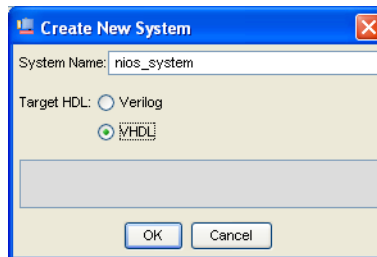
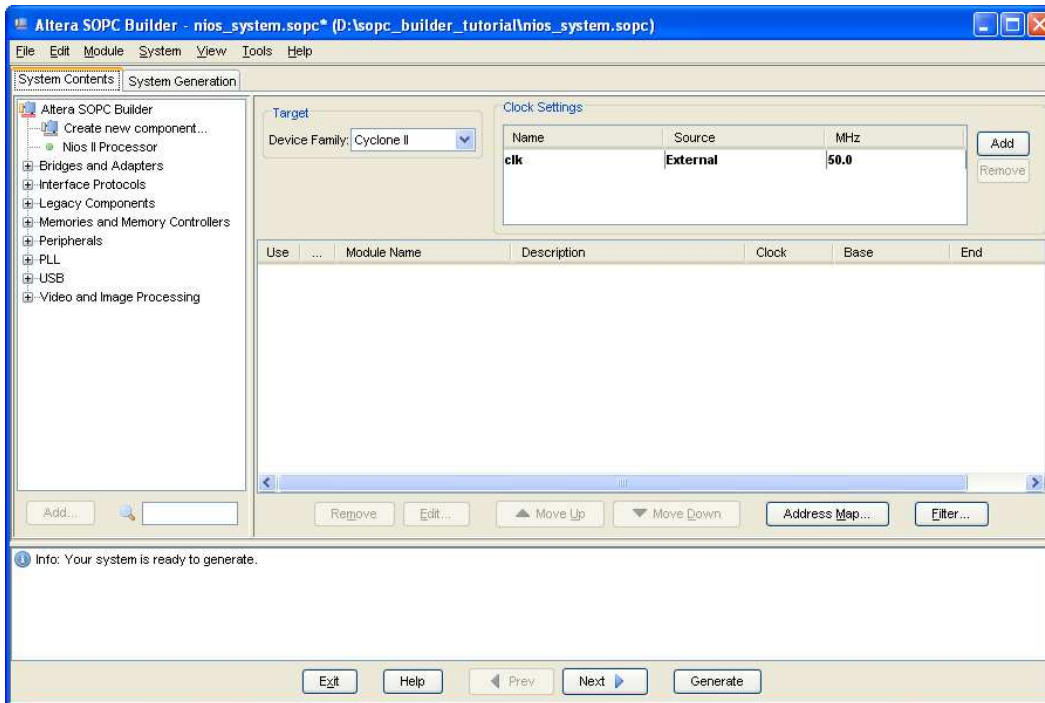
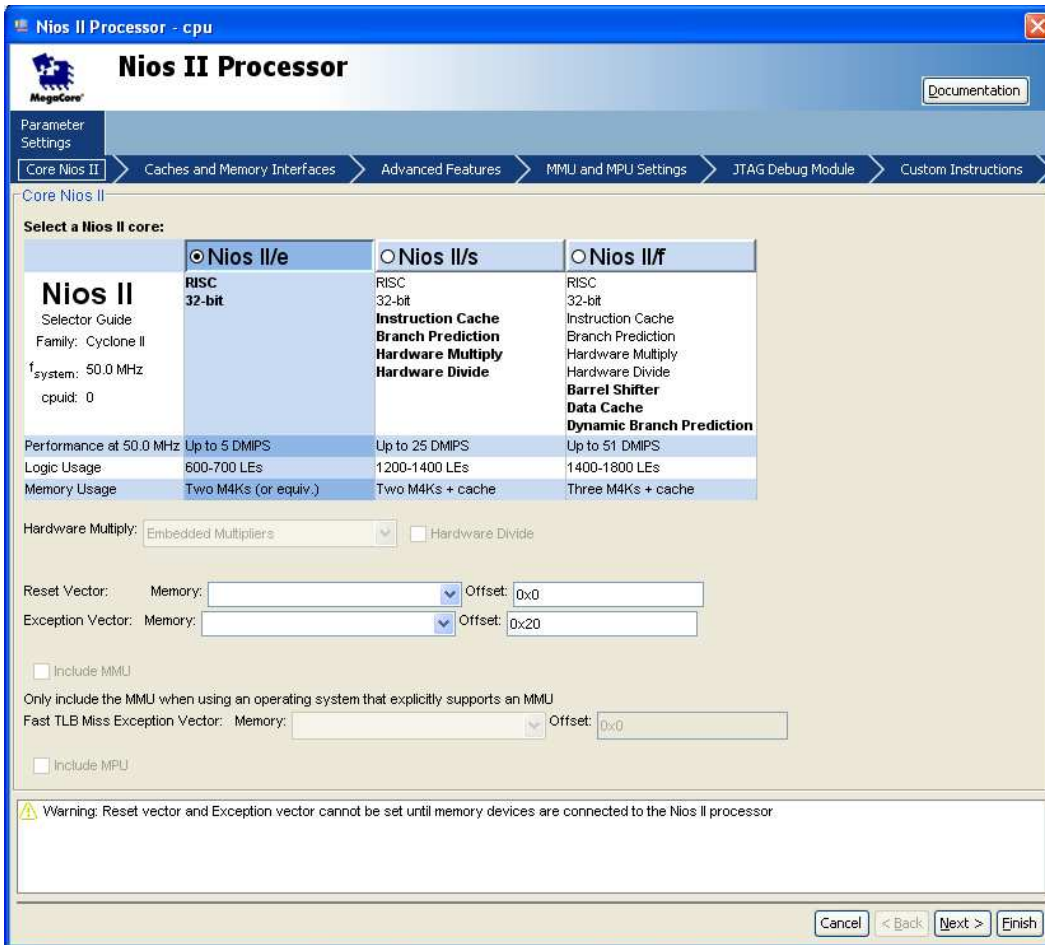
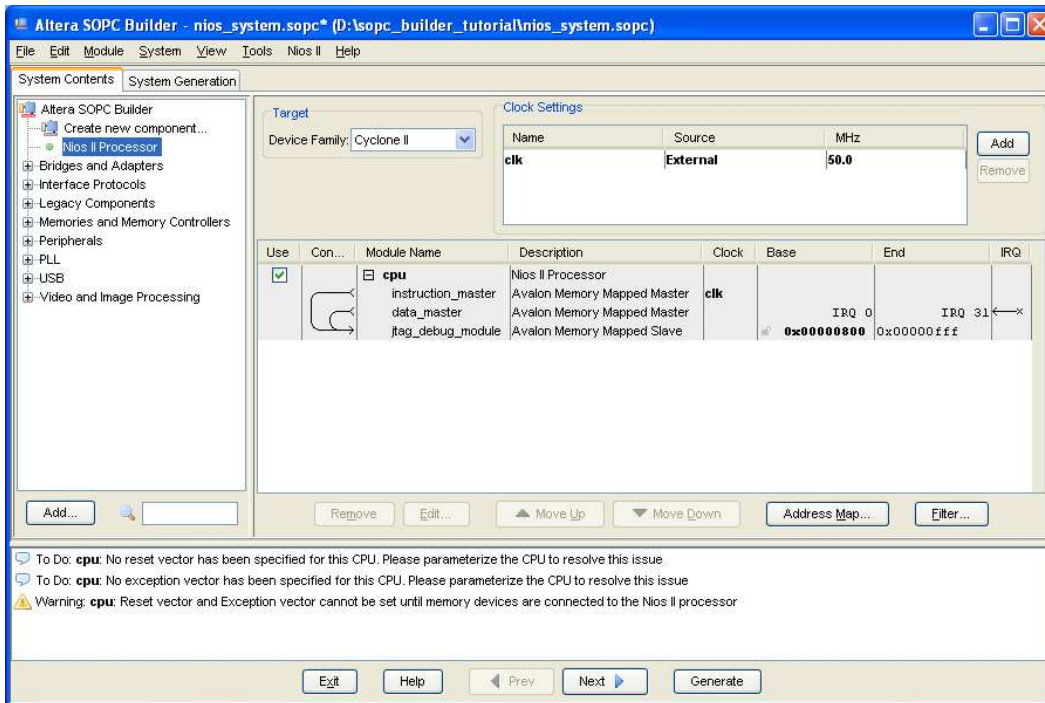

Figure 4. Create a new Nios II system.
Figure 5. The System Contents tab window.
Figure 6. Create a Nios II processor.
Figure 7. The defined processor.
2. Select Tools > SOPC Builder, which leads to the pop-up box in Figure 4. Enter *nios_system* as the system name; this will be the name of the system that the SOPC Builder will generate. Choose VHDL as the target HDL, in which the system module will be specified. Click OK to reach the window in Figure 5.
3. Figure 5 displays the System Contents tab of the SOPC Builder, which is used to add components to the system and configure the selected components to meet the design requirements. The available components are listed on the left side of the window. Before choosing our components, examine the area in the figure labeled Target. Check the setting for the Device Family and ensure that Cyclone II is selected.
4. The Nios II processor runs under the control of a clock. For this tutorial we will make use of the 50-MHz clock that is provided on the DE2 board. As shown in Figure 5, it is possible to specify the names and frequency of clock signals in the SOPC Builder display. If not already included in this list, specify a clock named *clk* with the source designated as External and the frequency set to 50.0 MHz.
- On the left side of the window in Figure 5 select Nios II Processor and click Add, which leads to the window in Figure 6.
- Choose Nios II/e which is the simplest version of the processor. Click Finish to return to the window in Figure 5, which now shows the Nios II processor specified as indicated in Figure 7. There may be some warnings or error messages displayed in the SOPC Builder Messages window (at the bottom of the screen), because some parameters have not yet been specified. Ignore these messages as we will provide the necessary data later.